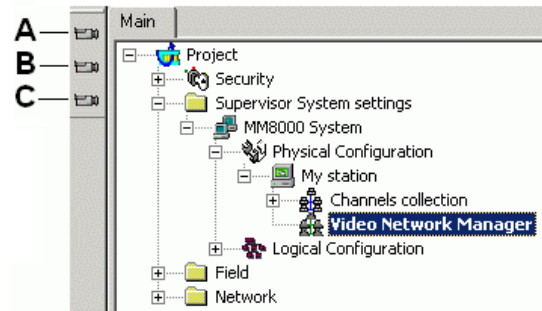

Fig. 3 Video drivers
2. In the toolbar, click the icon corresponding to the NR driver (Fig. 3):